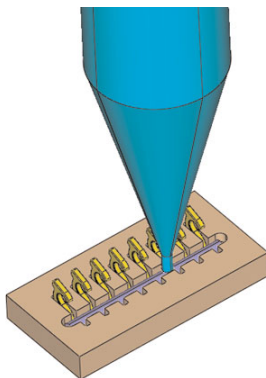

FIGURE 5 TUCK THE ELASTOMER INTO THE SLOT. CUT THE ELASTOMER TO FIT INTO THE SLOT.
6. Beginning at one end of the slot, tuck the elastomer into the slot. Work down the slot, tucking in the elastomer with the Johnstech Elastomer Tool, FIGURE 5.